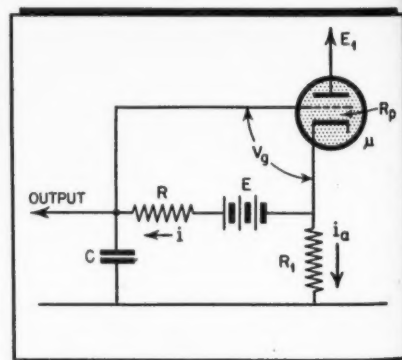

Figure 9
f. In a cathode follower the potential difference between the grid and the cathode remains almost constant so that an almost constant current must flow through R in Fig. 9, and C must charge up linearly.